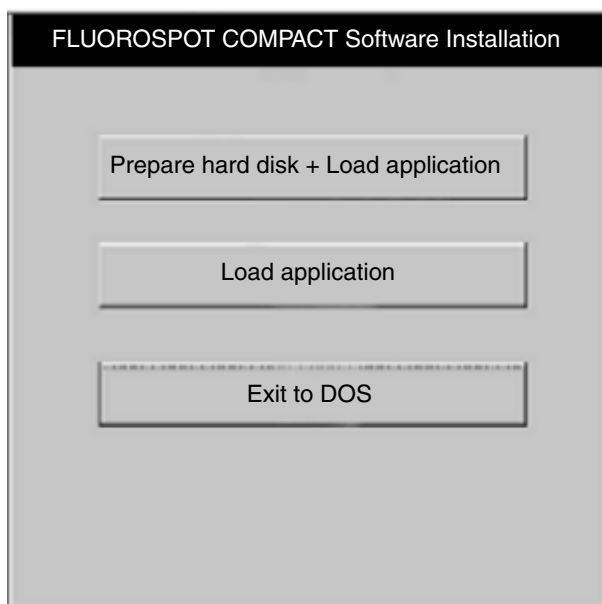

Fig. 13: FLUOROSPOT COMPACT Software Installation
- After the installation, the menu will appear again (Fig. 13 / p. 15).